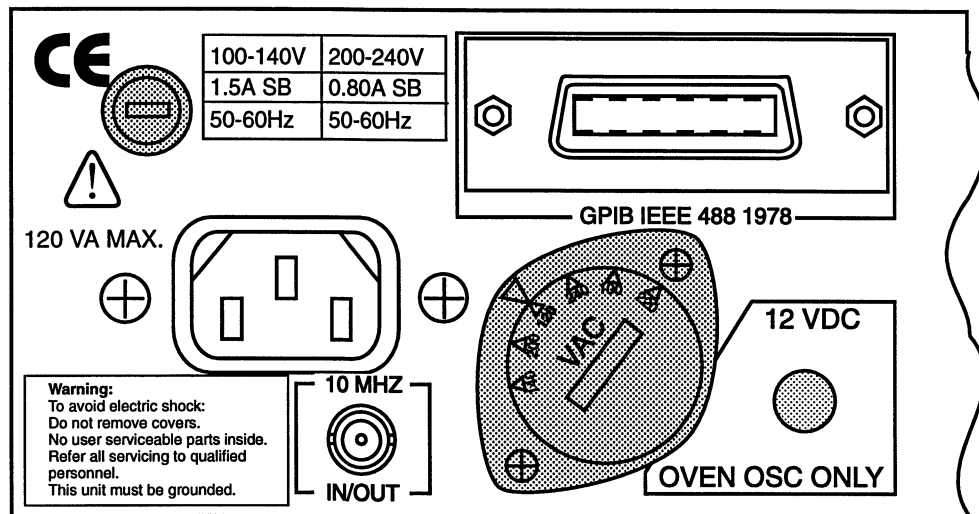

Figure 2-1. Rear Panel Fuse and Voltage Select Switch Locations.
The voltage selection switch should be set to the proper line voltage. (See Figure 2-1.) To change the line voltage, proceed as follows:
**To avoid damage to the counter, always be sure that the fuse used is the type and value specified, and that the voltage select switch is set to correspond to the ac power input voltage. (See Figure 2-1.)**